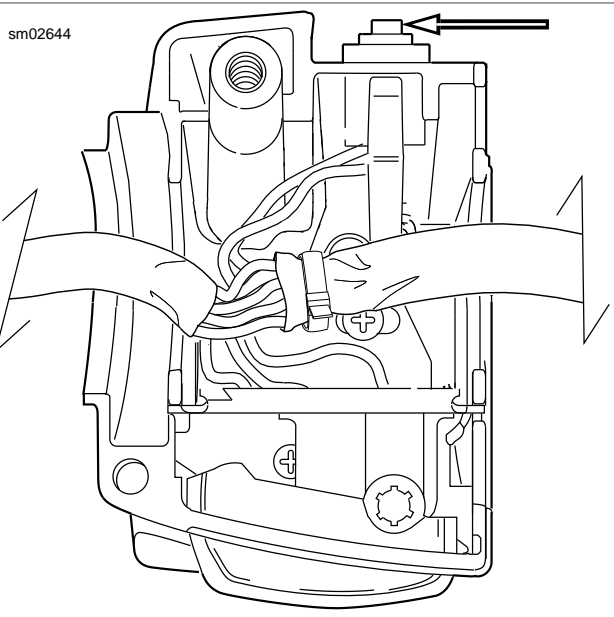

Figure 8-94. Clutch Interlock Switch
2. See Figure 8-94. Cut wires 0.25 in. (6.4 mm) from old switch. Discard switch assembly.